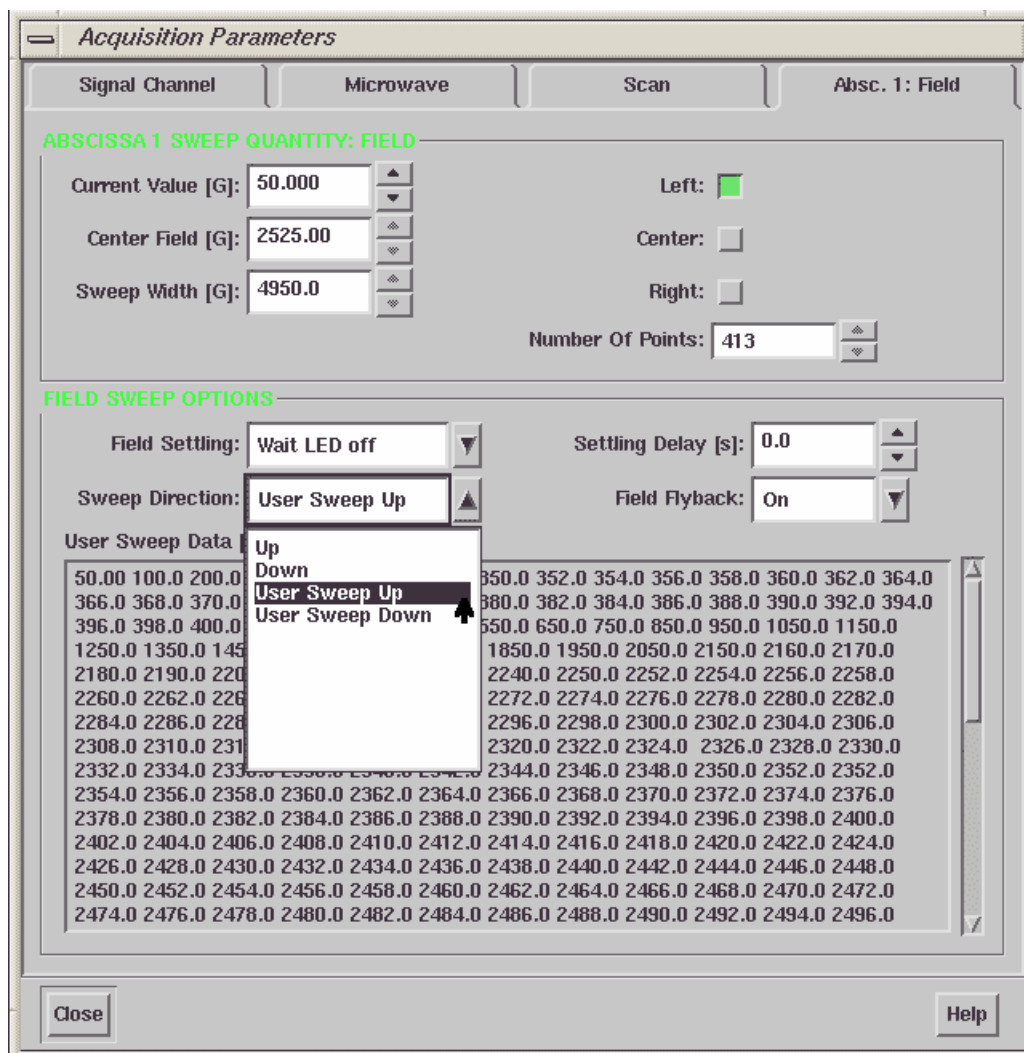

Figure 7-3 Selecting a user defined field sweep.
3. **Select a user defined sweep.** Click the tab of the Field folder. Select an appropriate Center Field for your sample. Click the arrow button of Sweep Direction in the Field Sweep Options section. In the drop-down list select User Sweep Up. (See Figure 7-3.)